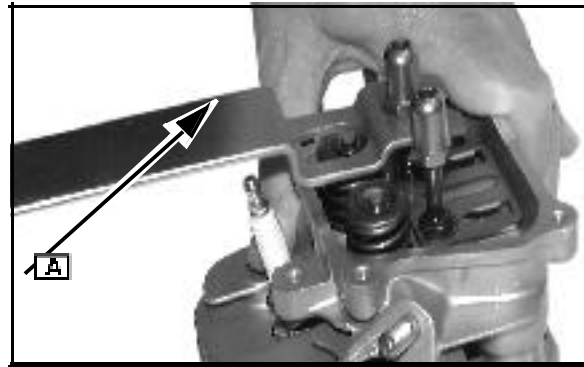

Fig. 24
3. Place retainer on spring. Use Valve Spring Compressor, #19347 ([A] Fig. 24) to press on retainer and compress spring.